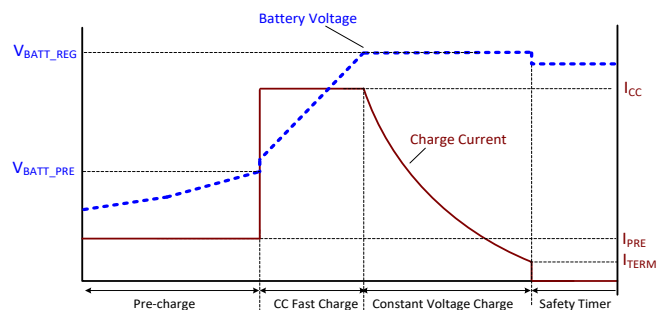

Figure 3: Battery Charge Profile
The IC checks the battery voltage to provide three main charging phases: pre-charge, constant-current (CC) charge, and constant-voltage (CV) charge (see Figure 3).